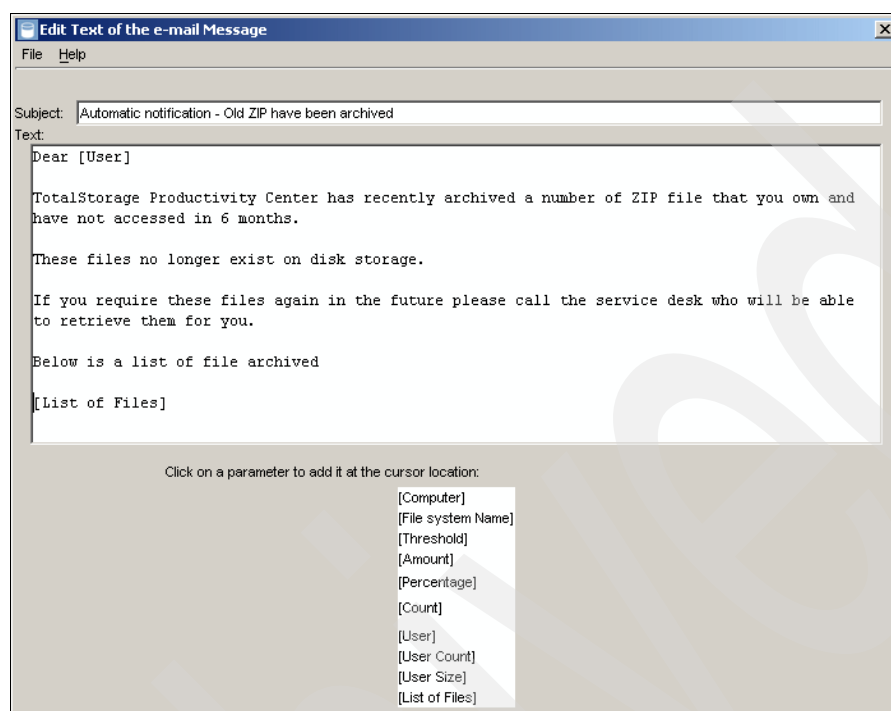

Figure 2-62 Customized user e-mail
10. Change the text of the **Subject** and **Text** to something more informative, such as Figure 2-62 on page 58.
11. Figure 2-62 shows a more informative e-mail for the user. It addresses the user with the [User] name, tells the user what happened, why, and how to get the user's files back in the future. This e-mail message also gives a list of the files that were affected by this action.